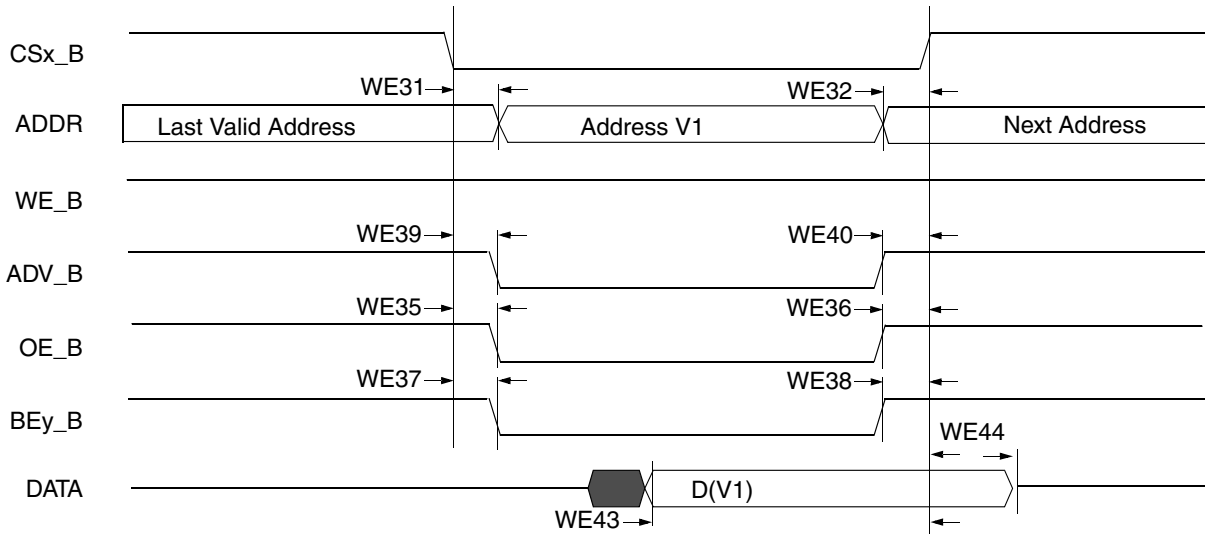
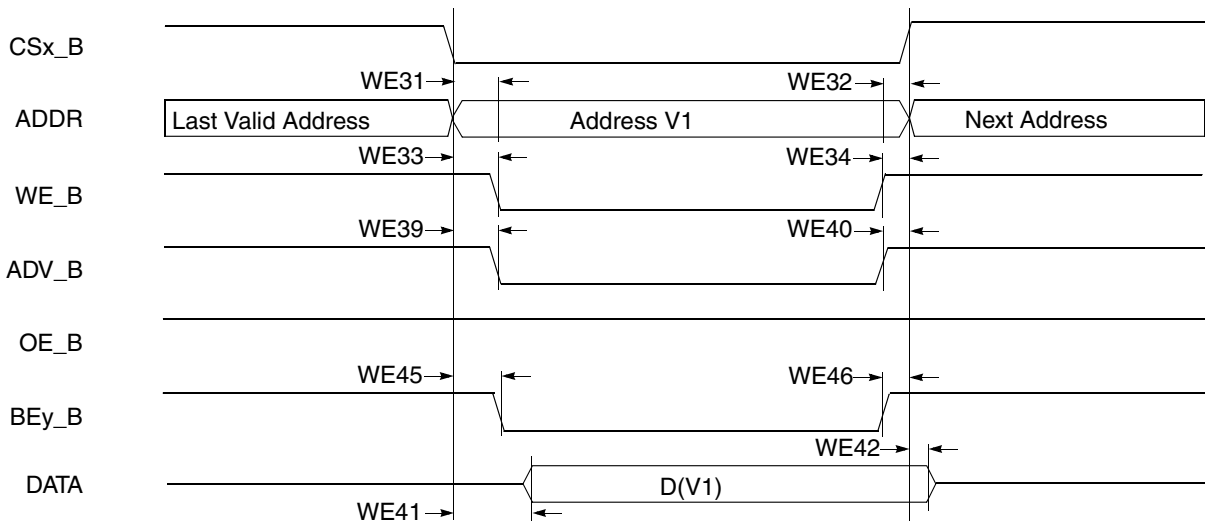
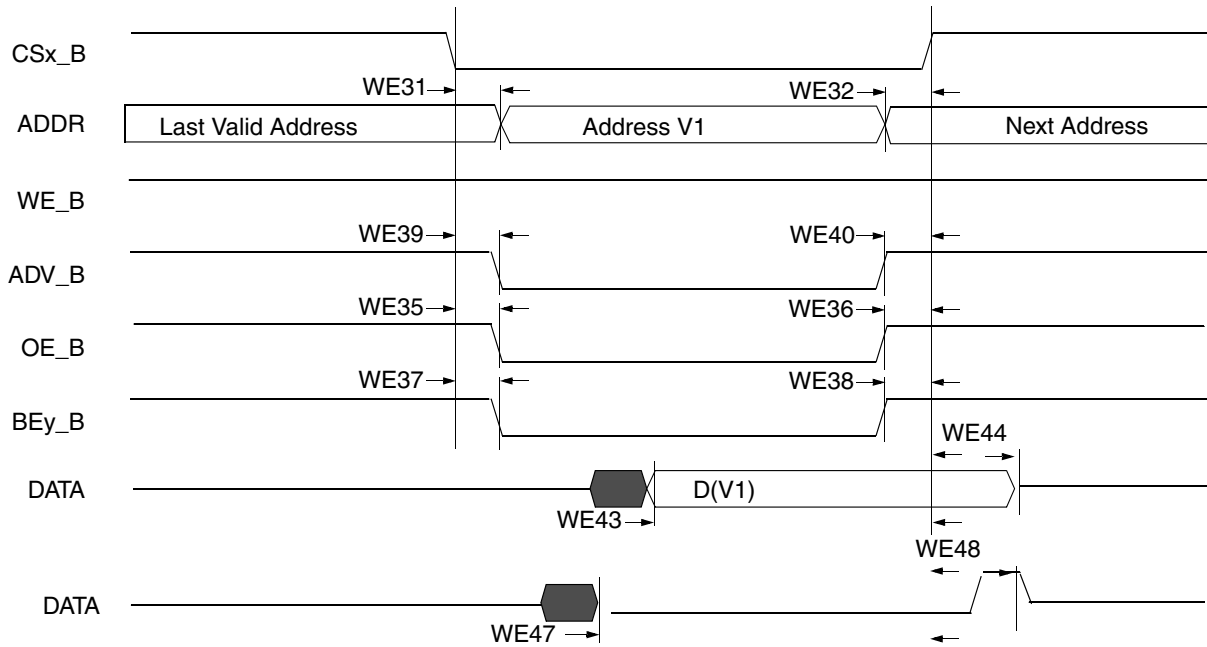

Figure 28. Asynchronous Memory Read Access
Figure 29. Asynchronous Memory Write Access
Figure 30. DTACK Read Access
Figure 28, Figure 29, Figure 30, and Table 54 help to determine timing parameters relative chip select (CS) state for asynchronous and DTACK WEIM accesses with corresponding WEIM bit fields and the timing parameters mentioned above.